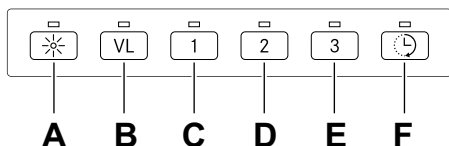

Fig. 10
1. To open programming: press and hold down buttons A and B for 3 seconds so that they both flash 3 times, see Fig. 10. Programming mode will then be active for 30 seconds.
3. To save programming: press and hold down buttons A and B for 3 seconds, see Fig. 10. Buttons A and B will flash twice to show that the programme has been saved.